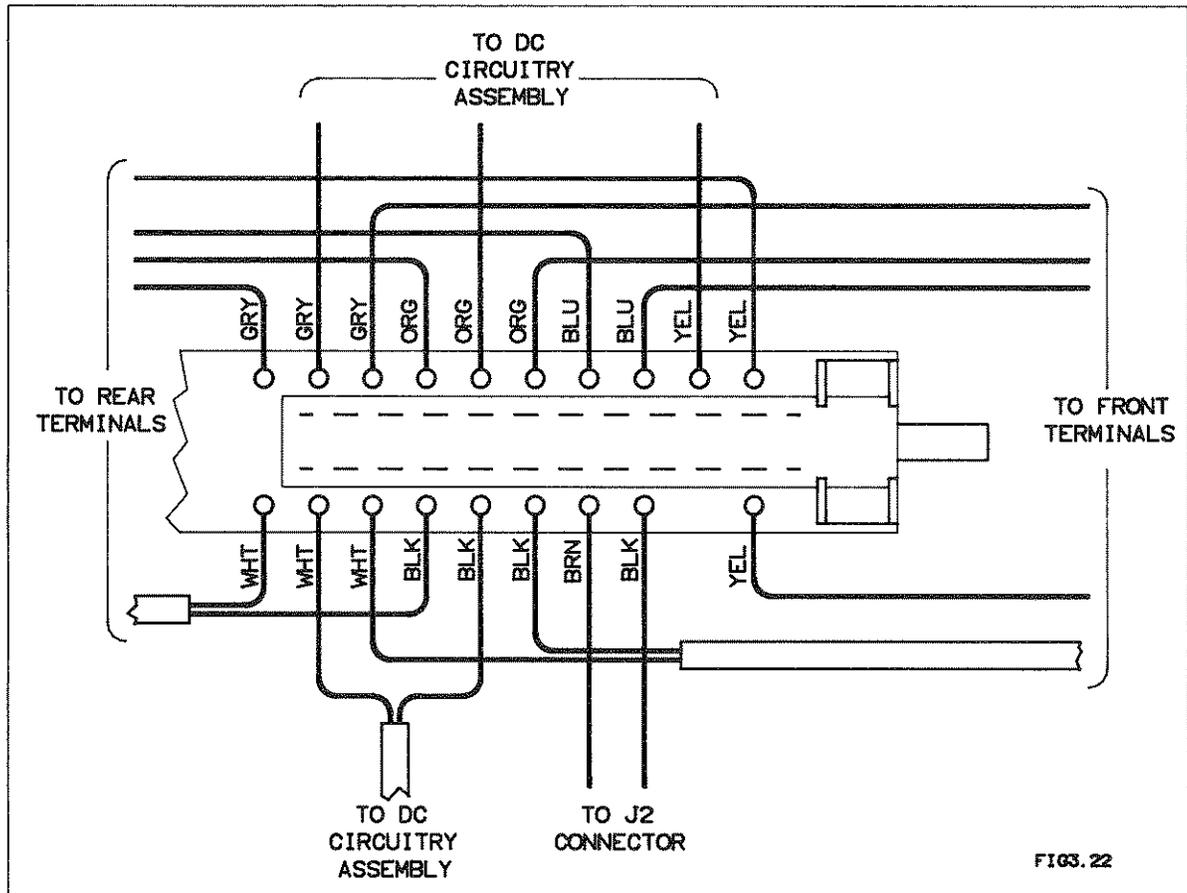

Figure 3-22. Wire/Cable Locations on Front/Rear Terminals Switch
5. On the Front/Rear Terminals switch assembly, note for future reference the location of the wires connected to the assembly. These locations are also shown in Figure 3-22. Then unplug and lay aside all wires from the assembly.
1. Refer to Figure 3-22. Plug in all wires to the Front/Rear Terminals switch assembly. Use the wire locations noted in the previous procedure.